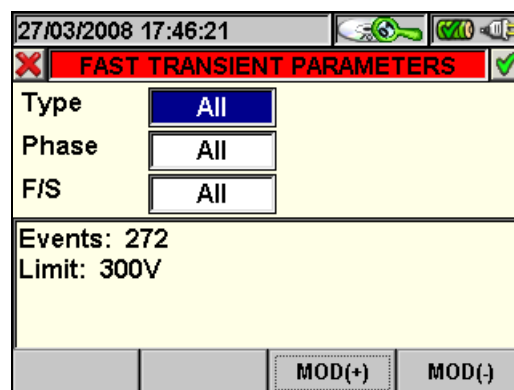

Fig. 134: Fast transients parameters
- The **F2** key (or the **PARAM** item on the display) accesses the page showing the settings for transients (Fig. 134).